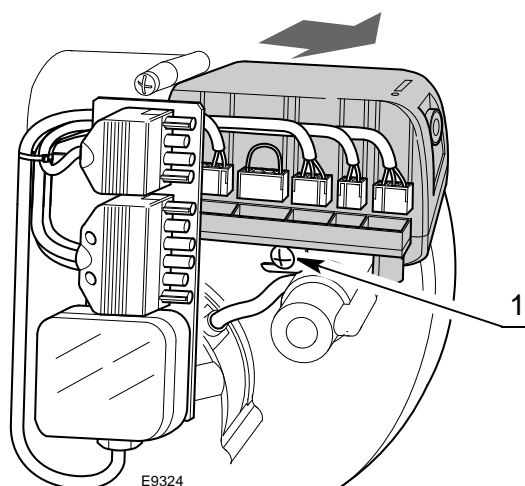

Fig. 17
- disconnect all the connectors connected to it, the 4-in plug, the 6-in plug, the high voltage cables, and the earth wire (TB);
- loosen the screw 1)(Fig. 17) and pull the control box in the direction of the arrow.
- tighten screw 1)(Fig. 17) with a tightening torque of $1 \div 1.2 \text{ Nm}$;